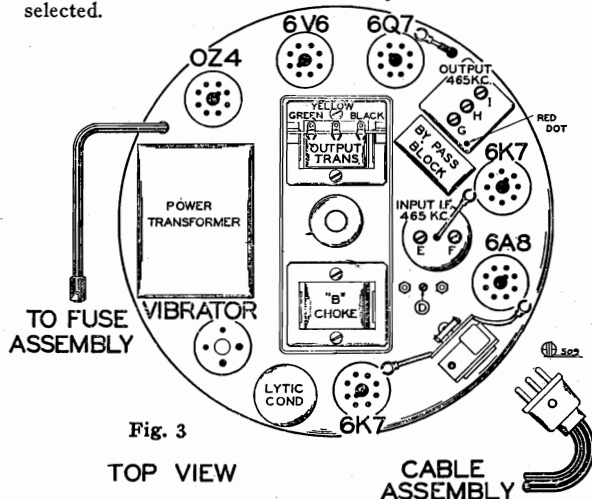

Fig. 3
2. Adjust trimmers "G" and "H" of output I.F. transformer for maximum gain, (See Fig. 3, top view).
4. Re-set test oscillator to 600 K.C. and rotate Remote Tuner Unit dial to 600 K. C. Adjust shunt oscillator adjustment "D", rotating dial to and fro at the same time adjusting shunt oscillator for maximum gain. This adjustment is accessible from the top of the radio chassis, (See Fig. 3, top view).